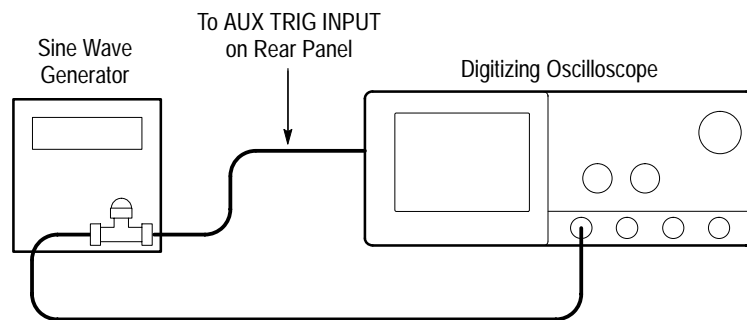

Figure 1–17: Initial Test Hookup
- Connect the signal output of a medium-frequency sine wave generator (item 19 or, optionally, item 25) to a BNC T connector. Connect one output of the T connector to **CH 1** through a 50  $\Omega$  precision coaxial cable. Connect the other output of the T connector to the **AUX TRIG INPUT** at the rear panel. See Figure 1–17.